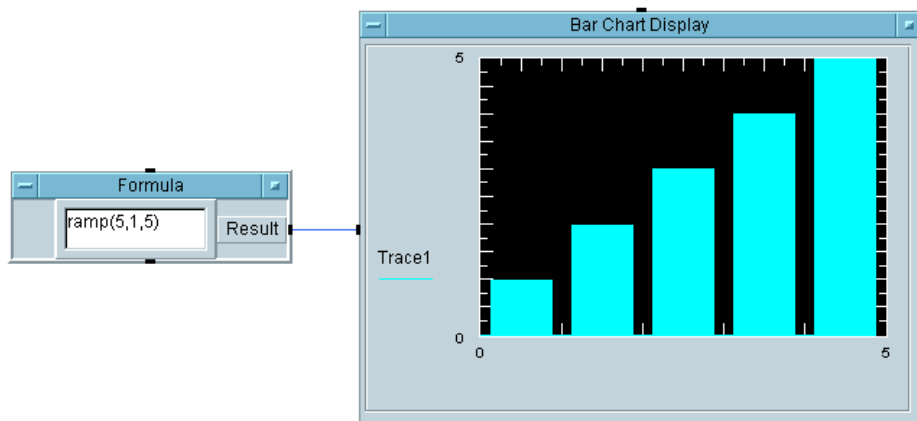

Figure 231 Merging the BarChart Program
- 5 Run the program. It should look like Figure 231.